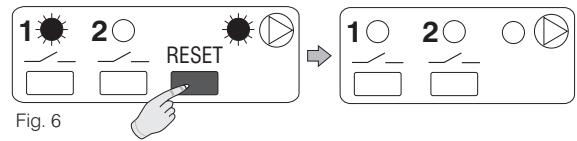

Fig. 6
- Briefly press the “**RESET**” key; when released the temporary forced control is cancelled (fig. 6).